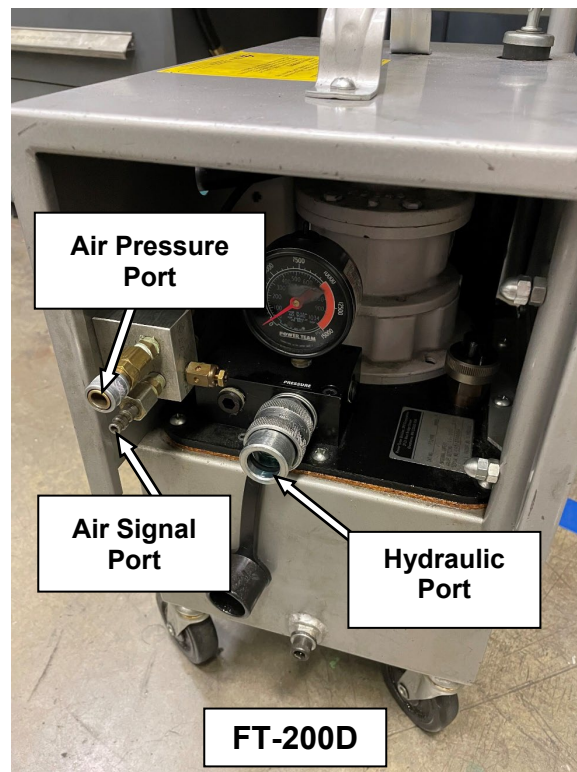

Figure 3.1-1
4. Identify the connection ports on the FTI PowerPak where the puller unit hoses will go. See Figure 3.1-1 below.